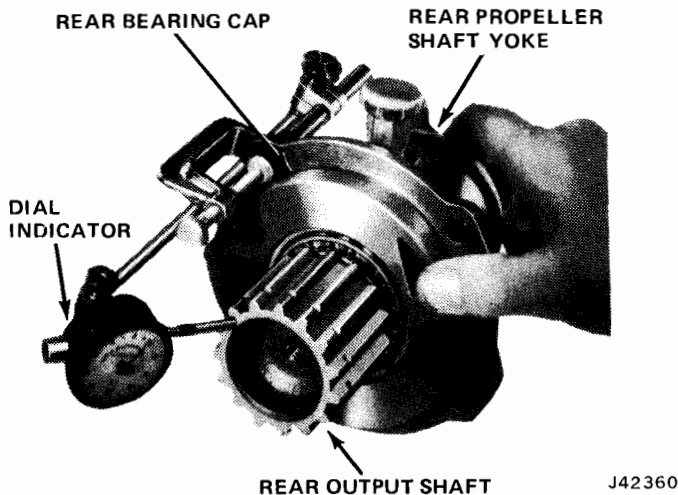

Fig. 8-11 Checking Rear Bearing Cap End Play
- (1) If removed, install speedometer driven gear bushing using Bushing Installer Tool J-25169.
- (2) Drive front bearing cup into bore.
- (3) Install front bearing on shaft.
- (4) Drive rear bearing cup into bore.
- (5) Install speedometer drive gear and shims on shaft.
- (6) Place output shaft in bearing cap and rest end of output shaft on firm surface.
- (7) Place rear cone and roller on output shaft and drive bearing onto shaft and seat it against shims.
- (8) Install yoke seal with Driver J-25132.
- (9) Install yoke, flat washer, and nut. Tighten nut to 240 foot-pounds torque.
(10) Clamp dial indicator onto bearing cap and position indicator against output shaft as shown in figure 8-11.
(11) Pry output shaft back and forth to check end play. End play should be 0.001 to 0.003 inch.
(12) If end play is excessive, it can be corrected by installing shims between speedometer drive gear and output shaft front bearing.
(13) Place speedometer driven gear in bearing cap and install driven gear sleeve.